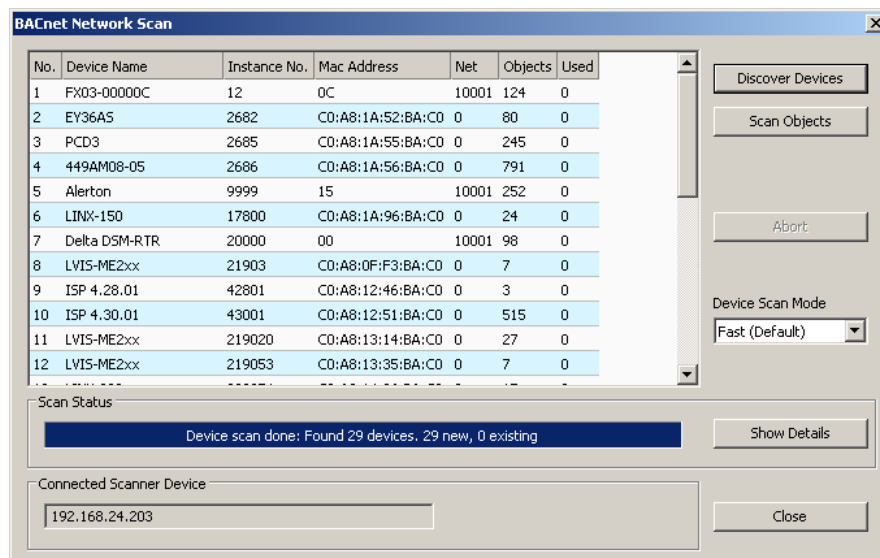

Figure 196: BACnet network scan dialog.
3. Right-click on that folder and select **Scan BACnet Network...** This opens the BACnet Network Scan dialog as shown in Figure 196.